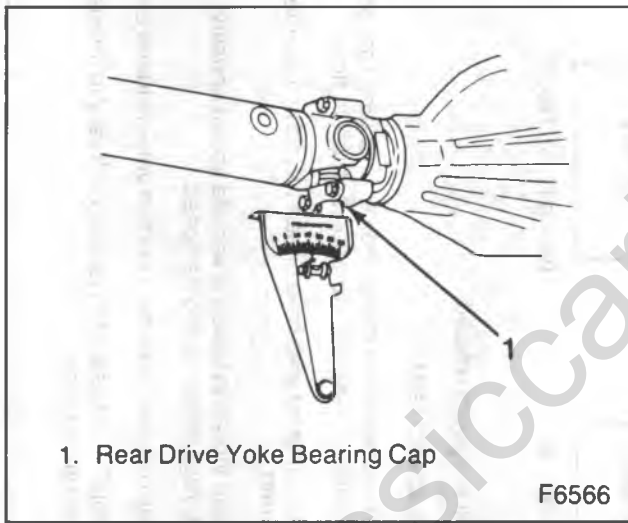

Figure 21—Measuring Rear U-Joint Working Angle
2. Rotate propeller shaft 90 degrees and place inclinometer on rear drive yoke bearing cap, (figure 21). Center bubble in sight glass and record measurement.